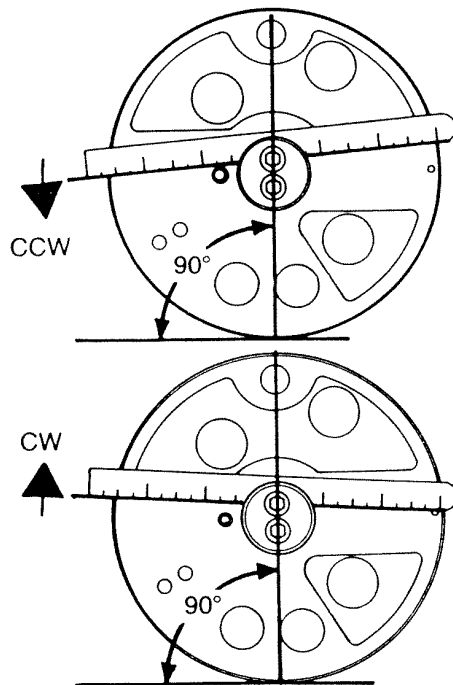

Fig. 56
**Note:** To determine pintle rotation, place a small ruler or straight edge in the porting slot as shown in Figure 56.